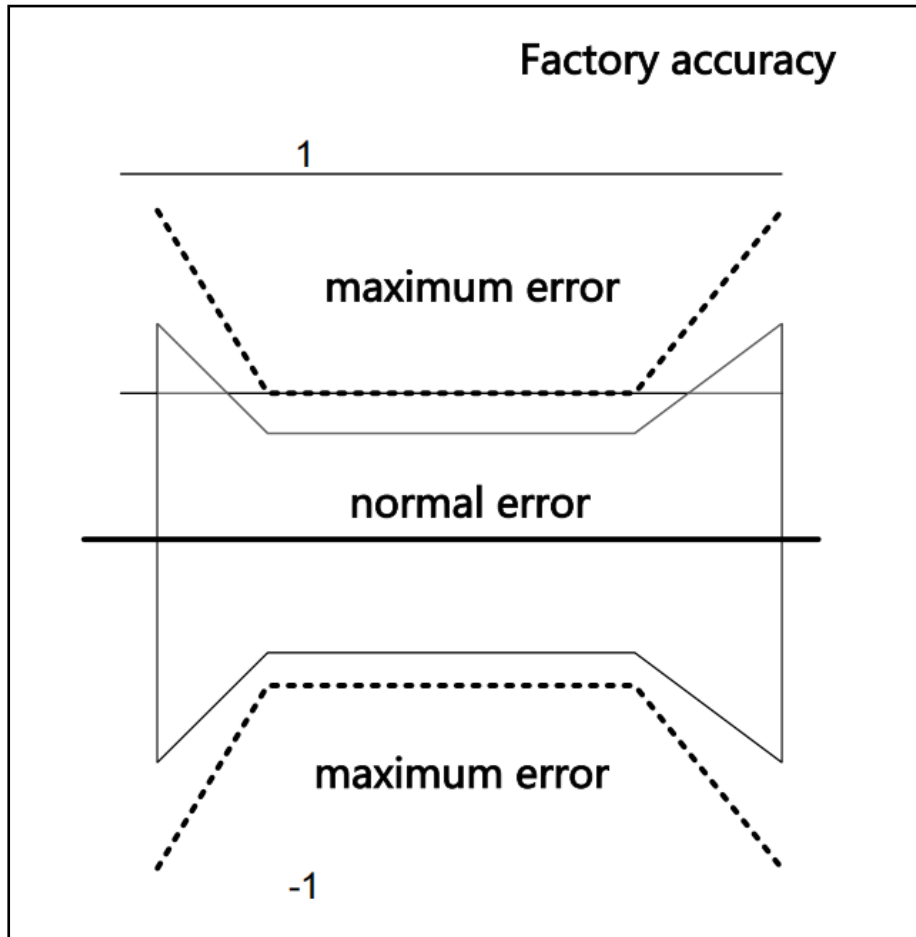

Figure 17. Typical characteristic curve
- 3) Typical curves are shown in Figure 17.
1) The typical characteristic curve is shown in Figure 17.